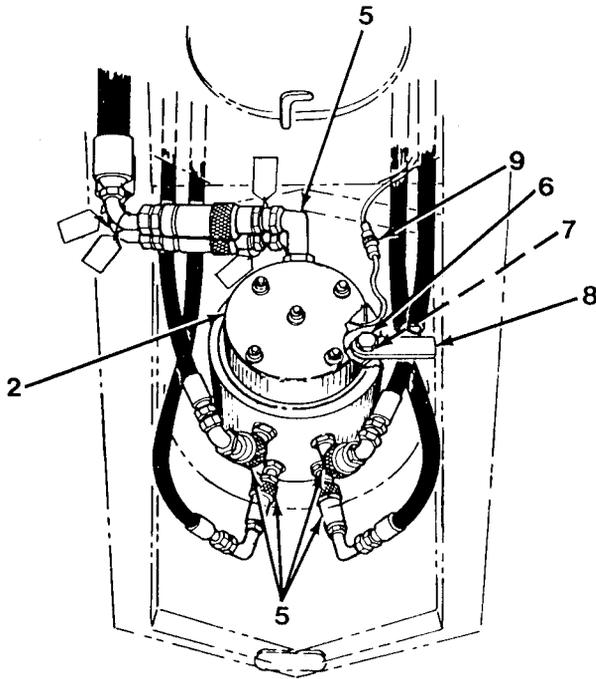
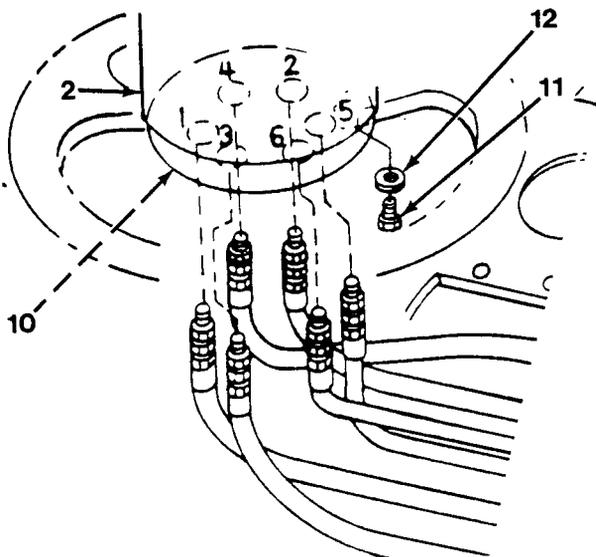

Figure 18-2
Figure 18-3
1. Using hoist and sling, install rotary manifold (2) by lifting manifold (2) over opening in carrier and lowering down and turning manifold (2) to avoid stop pin ear (8, Figure 18-2) located on upperstructure.
2. Align ear on side of manifold (2) to the hole in stop pin ear (8). Install stop pin (6) and lockwasher (7) through stop pin ear (8) into manifold (2).
3. Install three washers (12) and capscrews (11) through frame and into bottom of manifold (2, Figure 18-3).
5. Install six quick disconnects and elbows (5, Figure 18-2) and six hoses to side of manifold (2).
6. Install electrical leads (10) to bottom of manifold (2, Figure 18-3) (refer to page 10-62, step 19).
7. Install electrical lead (9) to electrical collector ring at top of manifold (2, Figure 18-2).